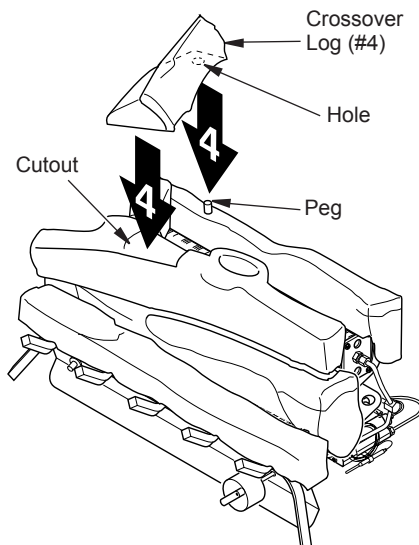

Figure 24 - Installing Crossover Log (#4) [18" Variable Manually-Controlled Set Shown]
4. Place the crossover log (#4) on the back log and the middle log. Make sure the peg on the rear log is in the hole in the bottom of the crossover log. The crossover log should fit in the cutout of the middle log (see Figure 24).